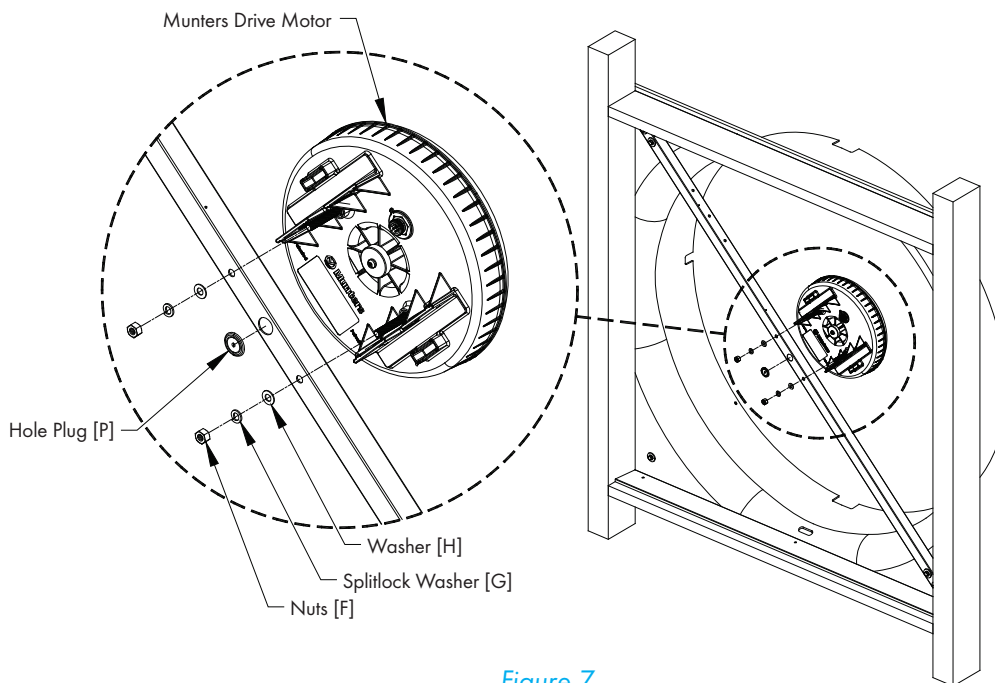

Figure 7
The motor in the foam packaging has pre-installed bolts sticking up. Carefully remove the motor from the foam packaging and from the outside of the fan slide the motor onto the strut so the bolts go through the 2 small holes at the center of the strut and fasten in place using (2) Washers [H], Splitlock Washers [G] and Nuts [F]. Then install (1) Hole Plug [P] in the large center hole of the strut. See Figure 7.